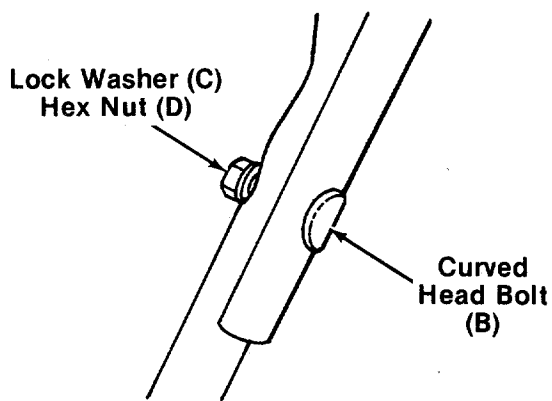

FIGURE 4.
5. Place the upper handle in position over the lower handle. The control housing must be on the left hand side of the handle. Secure the left hand side of upper handle using the curved head bolt (B), lock washer (C) and hex nut (D) as shown in figure 4.